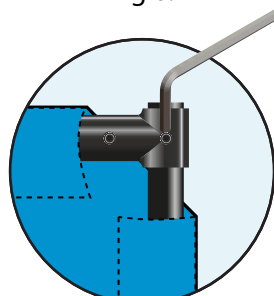

Fig 10.
8. Secure the T joint on the end of the pole by tightening the grub screws with the allen key provided. (Fig 10)